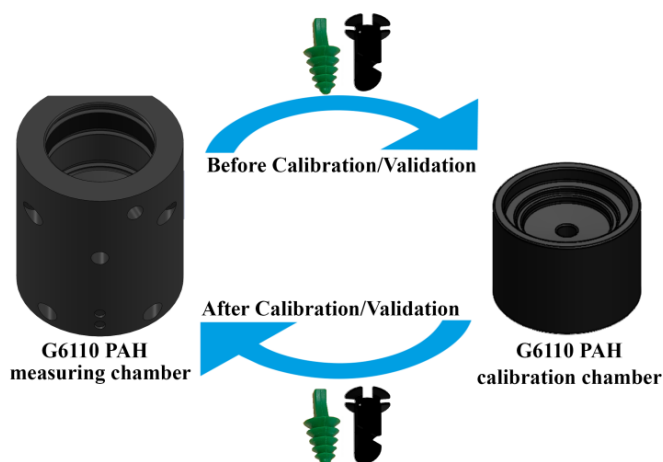

Figure 6-7: PAH Chamber Bushing Placement
1. Remove the PAH chamber bushing from the PAH measuring chamber using the PAH chamber bushing tool – Figure 6-7. Clean the bushing thoroughly.
11. Place the PAH chamber bushing in the PAH measuring chamber again. Please refer to Figure 6-7.